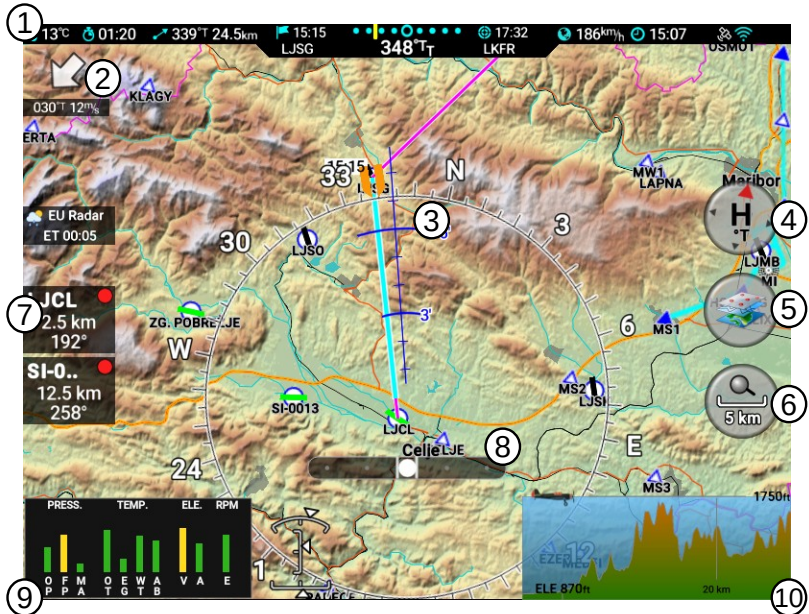
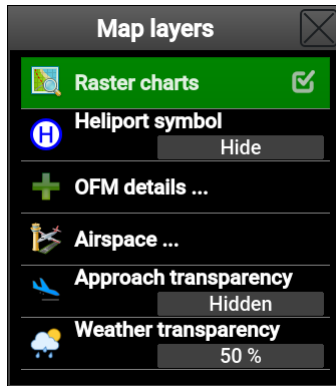

Figure 2.6: Illustration of the navigation screen.
Figure 2.11: The Map layers window.
Figure 2.6 illustrates an example and defines the main elements of the screen.
Certain map layers can be enabled or disabled and some of them can be tuned. Touching the map layers button (Figure 2.6, option ⑤) opens a window shown in Figure 2.11.